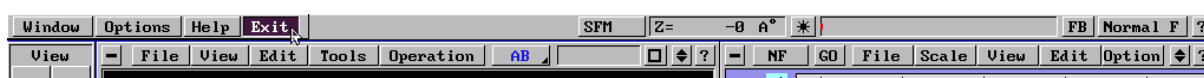

Fig. 190
- Exit the control program by pressing the "Exit" button in the "Main" button menu in the left corner of the screen (Fig. 190) or using the F10 functional key (after closing all the opened menus using the "ESC" key, otherwise the F10 is not activated).